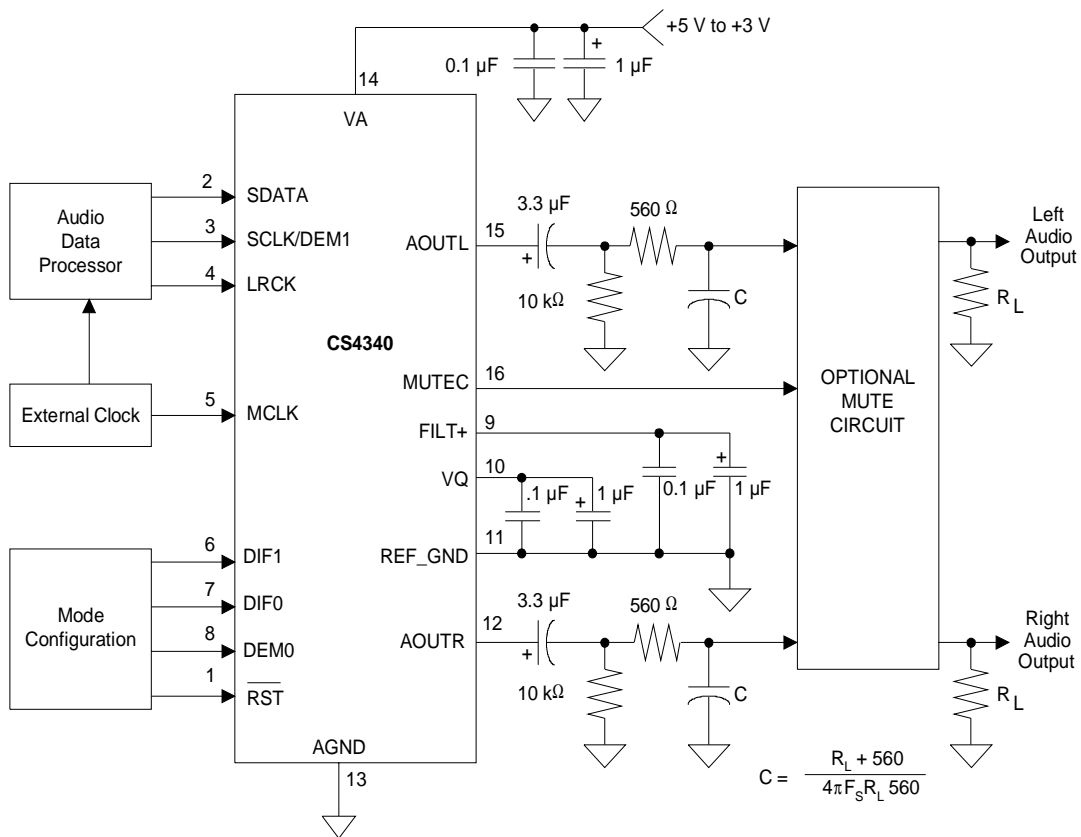

Figure 4. Typical Connection Diagram
10. Valid with the recommended capacitor values on FILT+ and VQ as shown in Figure 4. Increasing the capacitance will also increase the PSRR.
As with any high resolution converter, the CS4340 requires careful attention to power supply and grounding arrangements to optimize performance. Figure 4 shows the recommended power arrangement with VA connected to a clean supply. Decoupling capacitors should be located as close to the device package as possible.